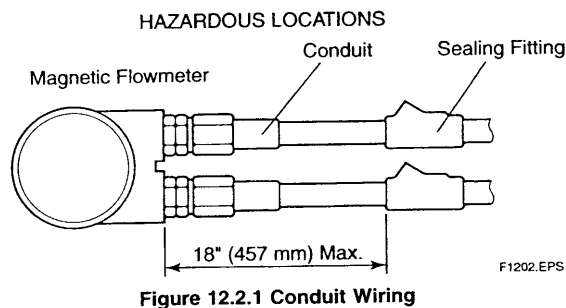

Figure 12.2.1 Conduit Wiring
- In hazardous locations, wiring to be in conduit as shown in Figure 12.2.1.